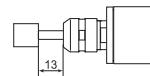

Fig. 22
- Do not exceed 13mm of overhang for mounted grindstones as shown in Fig. 22. If the overhang must exceed 13mm, reduce the motor speed in accordance with table 2.